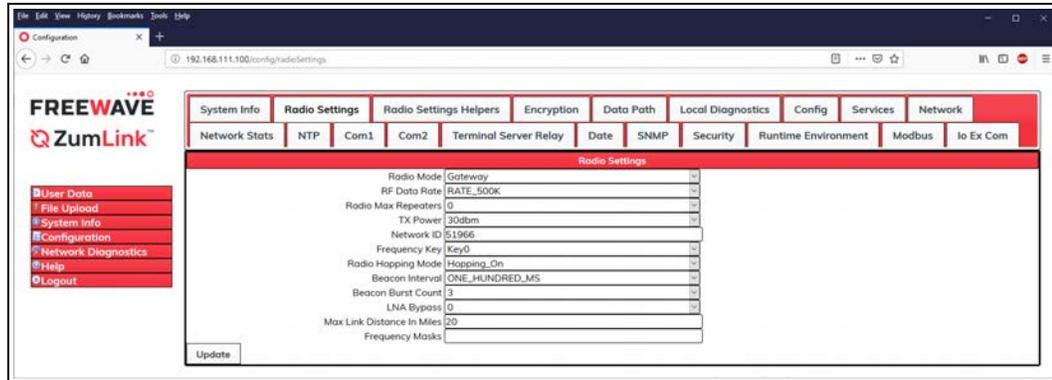

Figure 153: Radio Settings window - Gateway
7. Accept the **Radio Mode** default of **Gateway**. Figure 153